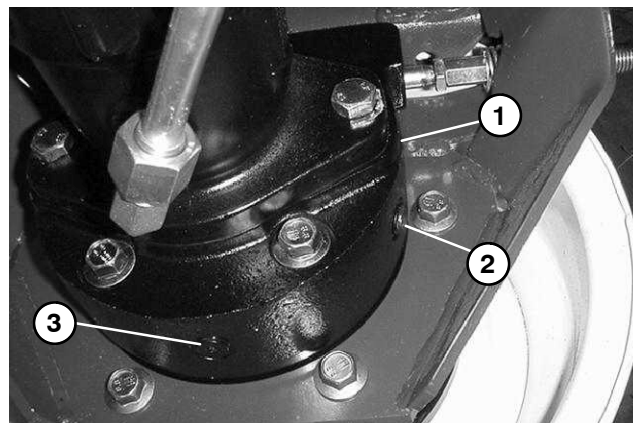

Figure 6
5. Make sure drain plug is installed in bottom of brake assembly (Fig. 6). Fill planetary wheel drive/brake assembly with SAE 85W-140 gear lube (see Traction Unit Operator's Manual). Capacity is approximately 16 oz. (.47 l) per wheel.